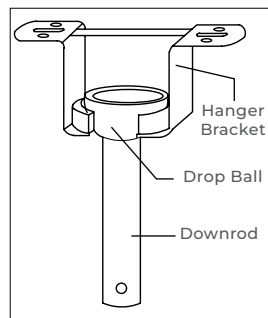

FIGURE 4
**A)** Place the drop ball in the hanger bracket and turn the pipe so that the groove on the drop ball engages the slot on the hanger bracket. The drop ball groove must engage the hanger bracket slot. (See Figure 4 and 5)